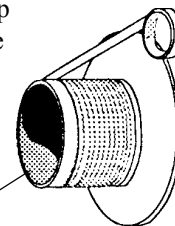

Figure 3.
3. Use the Teflon® tape provided. Snugly wrap the threaded wall flange in a clockwise direction (as viewed from the back) starting at the edge of the threads; see Figure 3. Work towards the wall flange lip (overlapping 1/2 of the tape width with each wrap) then back towards the starting point.